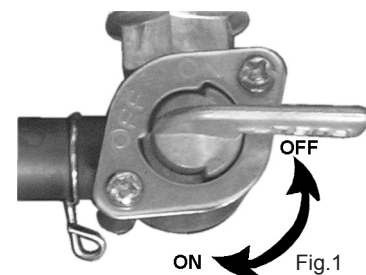

Fig.1
- 3.4.2 Turn the fuel valve to the "ON" position, Fig.1.
3.6.5 Turn off the fuel valve, Fig.1.